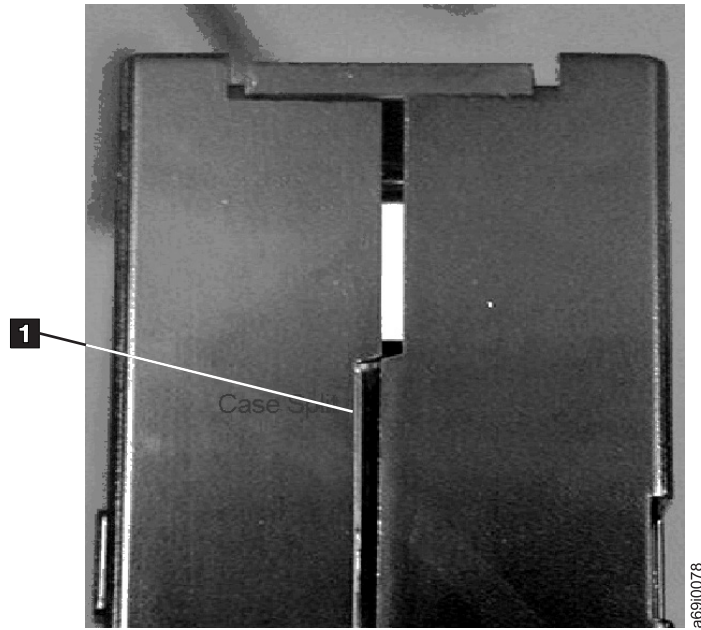

Figure 34. Checking for gaps in the seams of a cartridge
- Inspect the rear of the cartridge (the part that you load first into the tape load compartment) and ensure that there are no gaps in the seam of the cartridge case (see **1** in Figure 34 on page 129). If there are gaps in the seam, the leader pin may be dislodged and may need to be repositioned.